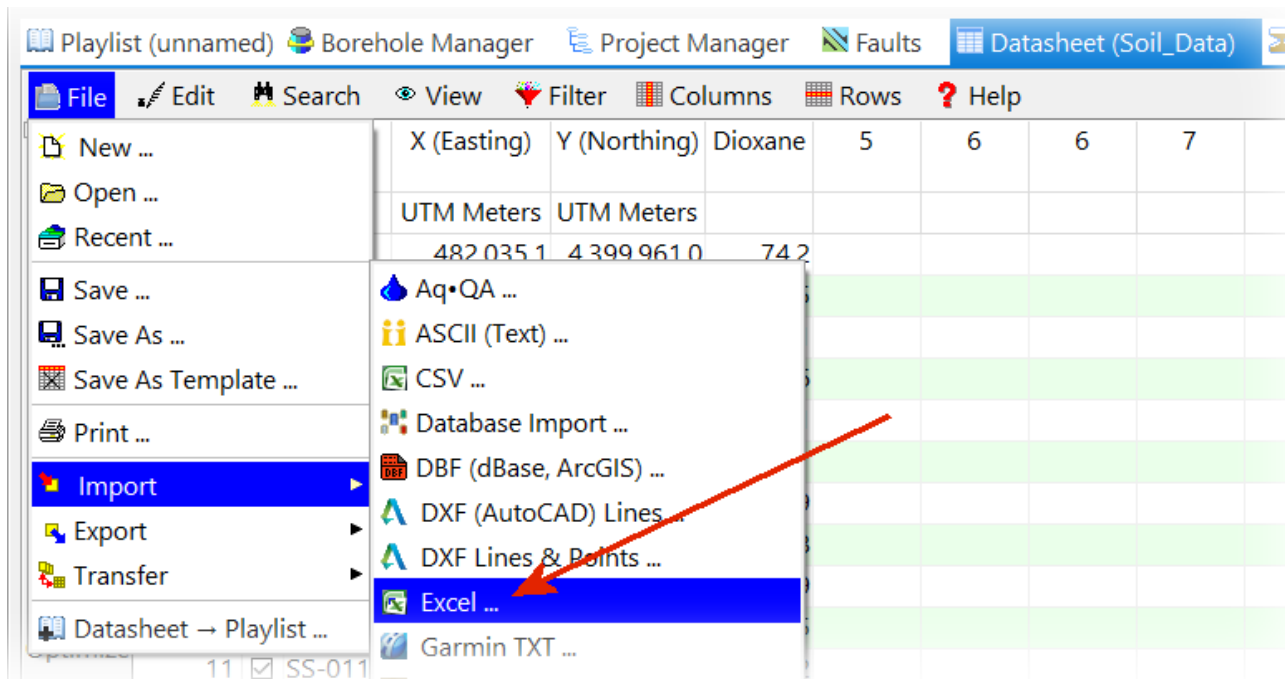

Figure 10
- An alternative method for importing Excel Data into the RockWorks Datasheet involves selecting the Datasheet / File / Import / Excel option (Figure 10). This method initially involves more effort than the previously-described Copy / Paste method, but it will pay off later on if the Excel file will be changed in the future.